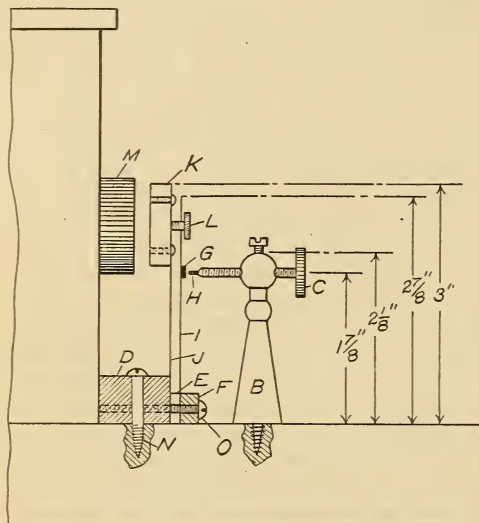
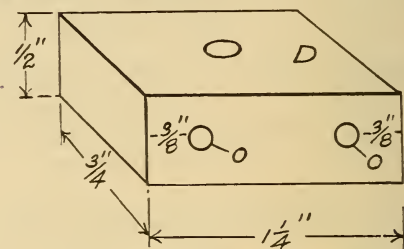

FIG. 12. THE VIBRATOR COMPLETE
FIG. 13. VIBRATOR SUPPORT
The complete vibrator mounted on the base is shown in Fig. 12. (M) represents the end of the core projecting through the end of the coil case. The vibrator proper comprises the soft iron disk (K), the regulating screw (L), the spring brass strips
To begin the construction first get a brass block made up according to Fig. 13. This is the block as shown at (D) Fig. 12. Two one-eighth inch holes (O, O) are drilled through the block three-eighths inch from each end. A third hole three-sixteenths inch in diameter is drilled through the top for the insertion of the screw (N). (See Fig. 12). The two brass blocks (E) and (F) (Fig. 12) are next made up. (E) should measure one-eighth inch thick, one-fourth inch high and one and one-fourth inches long. (F) has the same dimensions with the exception it has a thickness of three-sixteenths inch. Holes are drilled through blocks (E) and (F) three-eighths inch from each end so that a screw can be run through and will engage the threads at (O) in the block (D).
inch thick. This spring is drilled with holes at the bottom the same as the spring (J) and a 1-16 inch hole is drilled at (G) (Fig. 12) and a one-eighth inch hole at (L). At (G) a small platinum button is fixed. This button should measure one-eighth inch in diameter by one-sixteenth inch thick, and as it usually has a small projecting tip, it will only be necessary to insert this tip in the hole and head down. The soft iron disk (K) should measure one inch in diameter by one-fourth inch thick, drilled and threaded as shown in Fig. 12. The brass standard at (B) need not be of the same style as